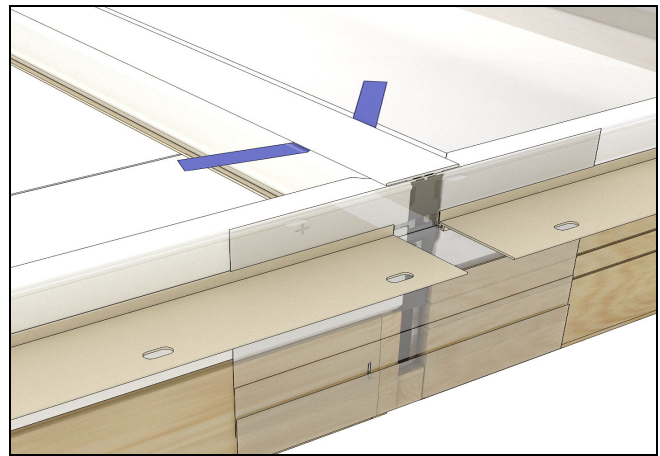

Figure 64
49. Ensure exterior surfaces of frames are clean and dry for optimum tape adhesion. Dog ear both pieces of backing on the tape on the exterior cover on one end. Seat exterior mull cover into the mull weather strip. See Figure 64. Ensure exterior cover barb is completely seated into the kerf of the weather strip.